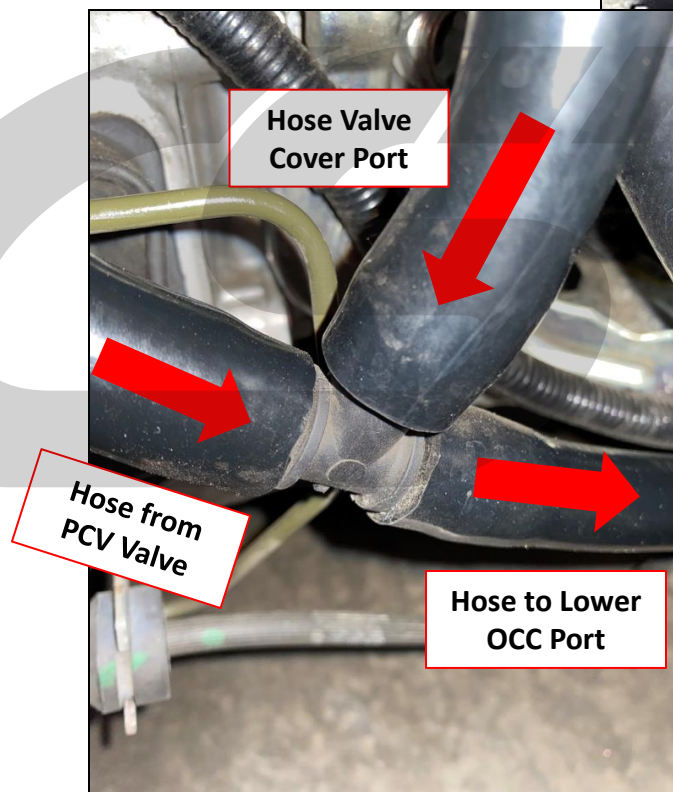
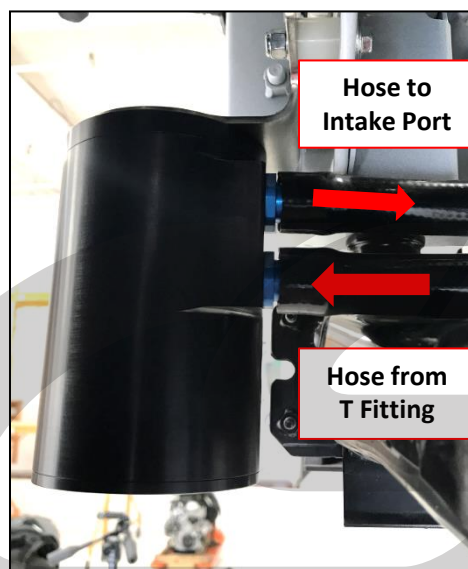
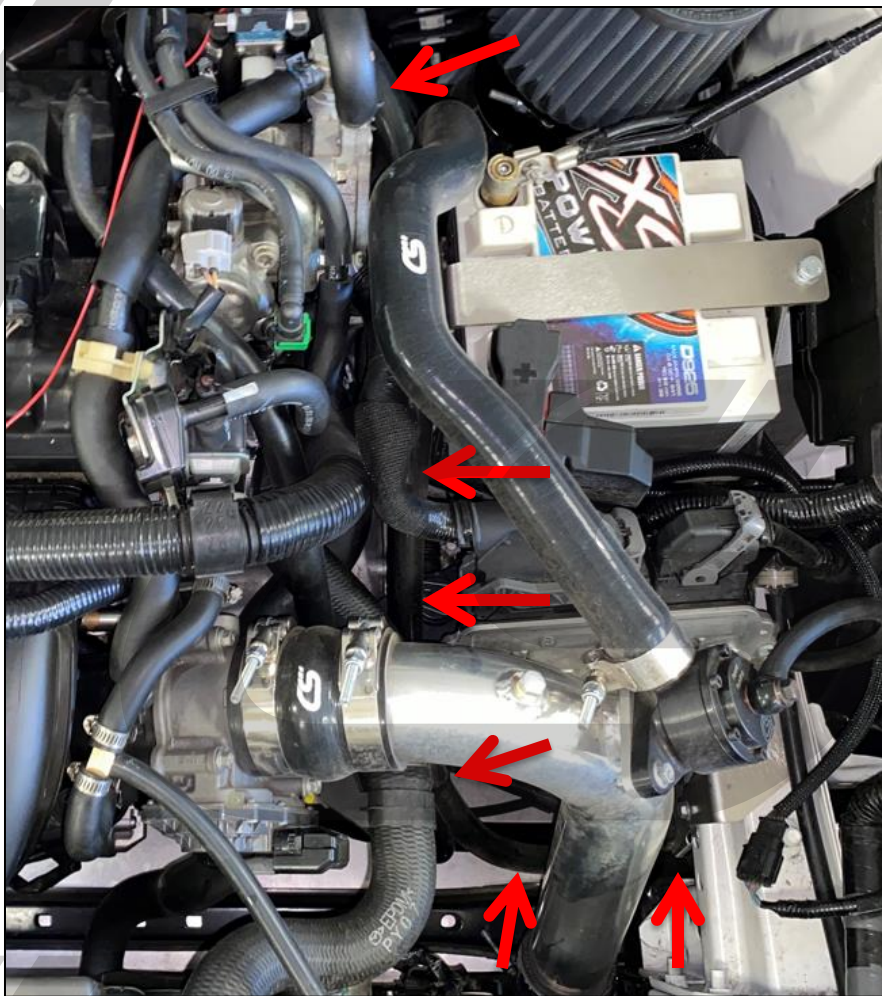

Figure 5g
Figure 5h
Figure 5i
n) Trim the hose to length & install on the T fitting. Final routing into the T fitting shown in Figure 5g for reference. Catch can ports also shown for reference in Figure 5h.
- o) Using the remaining hose, connect to the upper port of the OCC. Route this hose along the hose previously installed and along the side of the battery to the port on the intake pipe. Connection to OCC shown for reference in **Figure 5h** on the previous page. Approximate routing shown in **Figure 5i**.